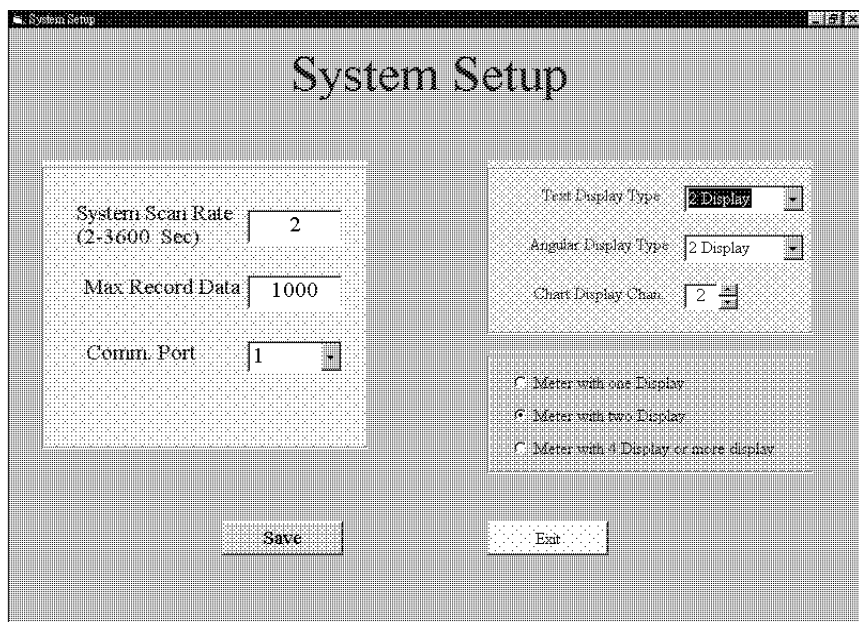

Fig. 2
1. Chose System setup from the Setup menu in the top-left corner and you will see a dialog box as Fig. 2